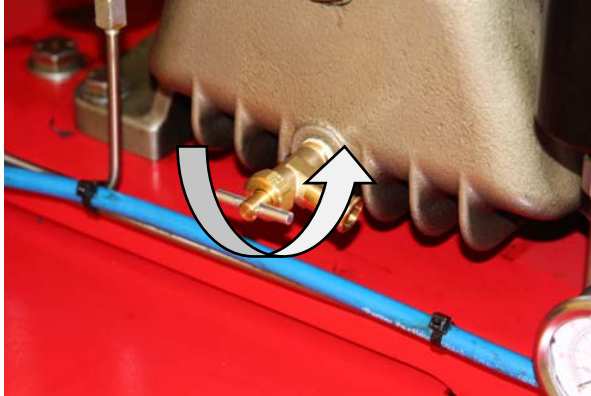

Figure 4.5-7: Oil Drain Valve
6. Open the oil drain valve fully by turning it counter-clockwise. See Figure 4.5-7.